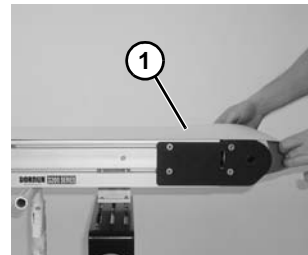

Figure 59
3. Install belt (**Figure 59, item 1**) on conveyor. Lift conveyor slightly to avoid pinching belt on temporary support stands.